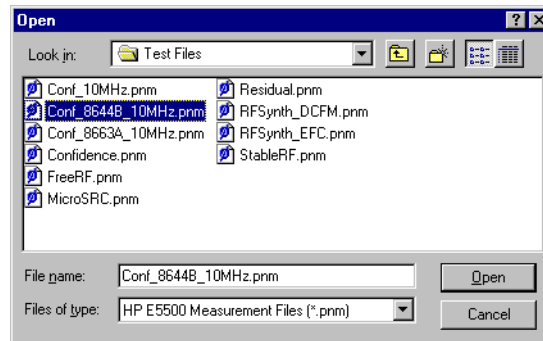

Figure 5-23 Select the Parameters Definition File
- 2 In the **File Name** box, choose **“Conf_8644B_10MHz.pnm.”** See Figure 5-23.